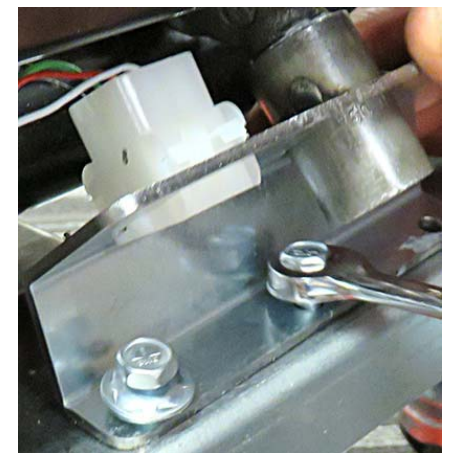

Figure 71
69. Align the dispose outlet assembly to the pre-drilled holes and attach using 1/4"-20 self tapping bolts (see Figure 71).